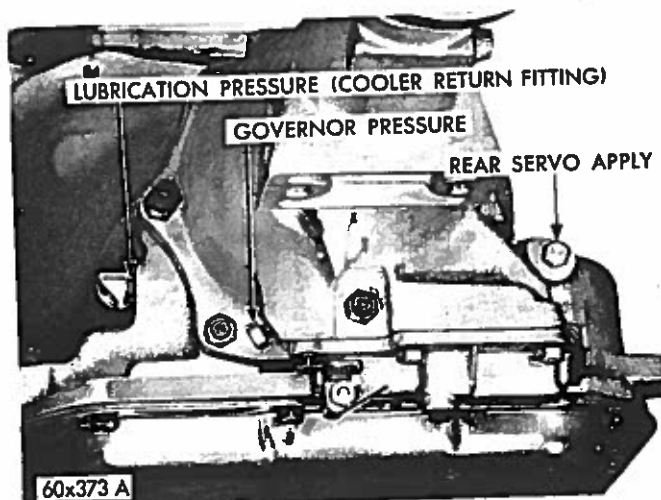

Fig. 21—Pressure Test Locations (Rear End of Case)
(1) Install a "tee" fitting between the cooler return line fitting and fitting hole in transmission case at rear of left side of transmission (Fig. 21). Connect a O-100 psi pressure gauge, Tool C-3292 to the "tee" fitting.
(2) At 1,000 engine rpm, with throttle closed and transmission in direct, lubrication pressure should be 5-15 psi. Lubrication pressure will be approximately doubled as the throttle is opened to
(1) Connect a O-300 psi pressure gauge, Tool C-3293 to apply pressure take-off point at rear servo (Fig. 21).
(2) With transmission control in R (reverse) position and the engine speed set at 1600 rpm, the reverse servo apply pressure should be 240-280 psi.
(1) Connect a O-100 psi pressure gauge, Tool C-3292 to the governor pressure take-off point, located at lower left side of extension near the mounting flange (Fig. 21).
(2) Governor pressures should fall within the limits given in the chart. See Page 101.